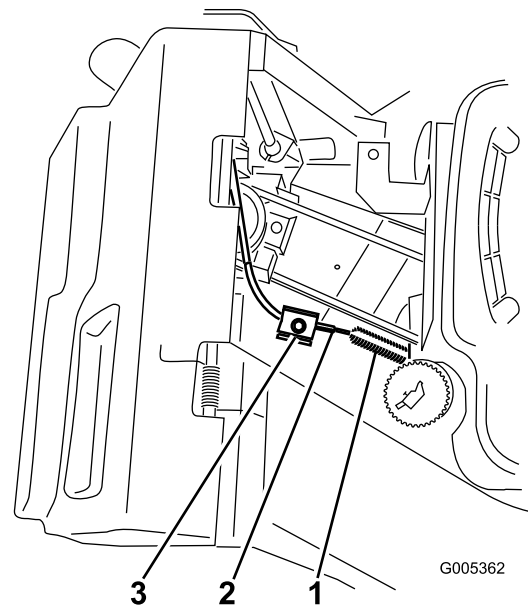

Figure 29
5. Loosen the cable clamp screw until the brake cable conduit slides (Figure 29).